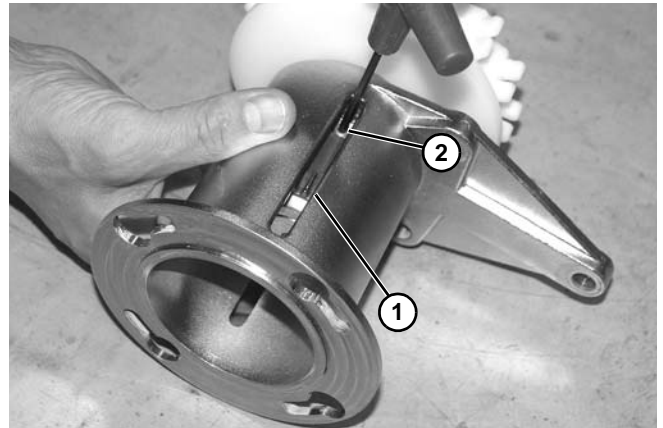

Figure 62
8. Use a hex key wrench through slotted access (Figure 62, item 1) of motor mount end to loosen two set screws (Figure 62, item 2) from the center drive gear.